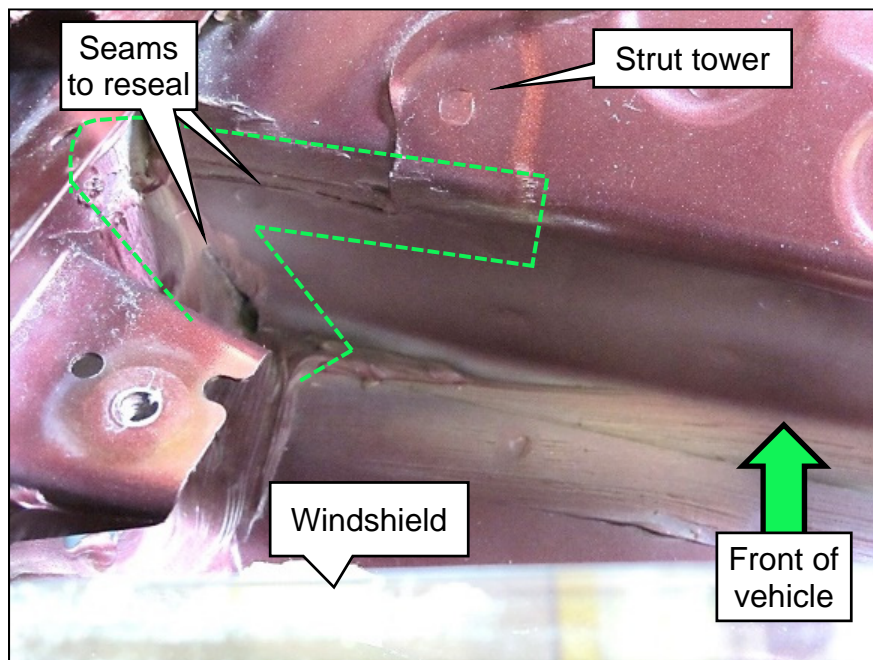

Figure 16
9. Locate the driver (LH) side cowl joint seams to be resealed, as shown in Figure 15 and Figure 16.
- Figure 16 is seen by looking down the windshield toward the engine bay under the open hood.